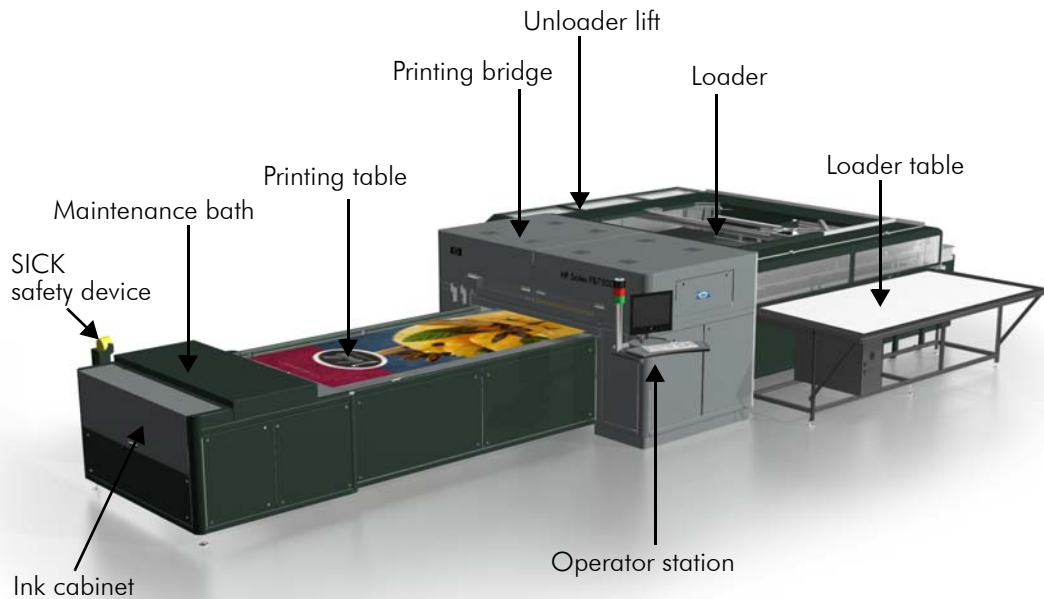

Figure 2-1 HP Scitex FB7500 Printer Components
- Printer (see Figure 2-1)
The ink cabinet is located on the left side of the FB7500 printer (see Figure 2-1 on page 8). It contains 6 sockets for SMYK, LM and MC colors and 2 spare sockets.